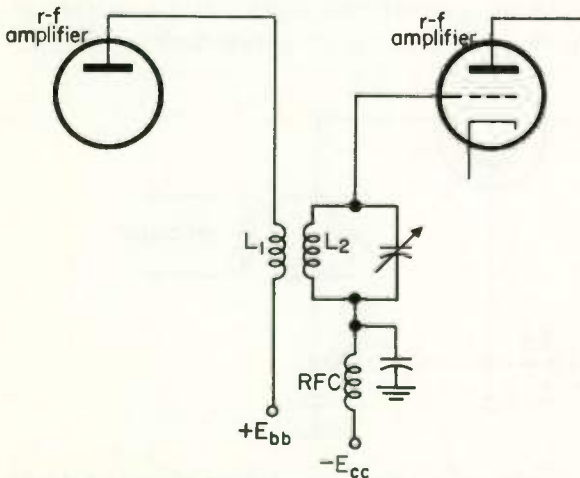
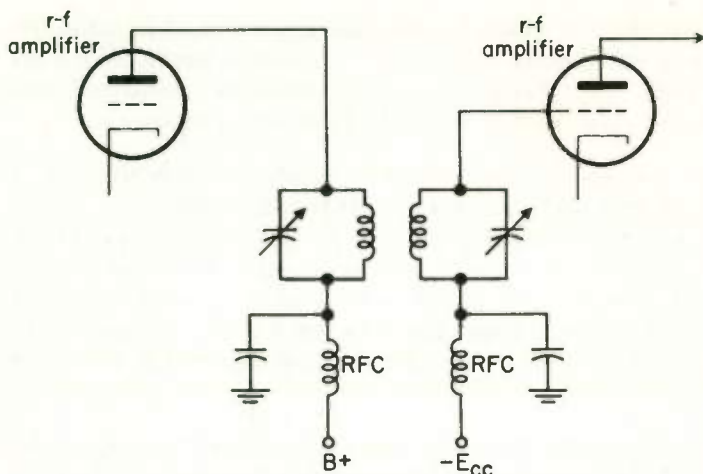

Fig. 15 Transformer coupling.
Fig. 17 Coupling between double-tuned stages.
14 TRANSFORMER AND CAPACITIVE COUPLING . . . Transformer coupling between r-f stages may be either single tuned as in Fig. 15, or doubled tuned as in Fig. 17. Double tuning gives better versatility in obtaining the desired frequency response, as will be explained in Topic 15. The primary and secondary of the transformer (L_1 and L_2 in Fig. 15) are generally wound on a coil form with an air core, the two windings being separated the proper distance to give the desired amount of interaction between primary and secondary windings. Iron cored
15 COUPLING BETWEEN DOUBLE-TUNED STAGES . . . A double-tuned r-f voltage amplifier is shown in Fig. 17. The degree of coupling between primary and secondary tank circuits determines the amplitude of the signal voltage to the grid of the second stage, and also determines the sharpness of tuning.
Obviously if the degree of coupling is low enough, only a small voltage is induced into the secondary (curve *a* of Fig. 18), so that the overall voltage gain of the circuit of Fig. 17 is poor. You might suppose that the highest voltage is induced across the secondary when the coefficient of coupling is as high as practical, but this is not the case. Fig. 18 shows that the secondary voltage at resonance reaches its highest value when $k = 0.01$ (curve *c*). Any further increase in the coefficient of coupling causes the secondary frequency response to become double humped (curve *d*), the voltage at resonance being reduced.
Fig. 18 How the secondary signal voltage in the circuit of Fig. 17 varies with the degree of coupling between the two tank circuits. (Curves assume that primary and secondary tank circuits are tuned to the same frequency, f_0 .)
1. In the circuit of Fig. 17, you can get sharper tuning by moving the tank circuit inductors so that they are (a) (*closer together*) (*further apart*). You can get high voltage gain and a often desired flat top on the response curve by adjusting the coupling to its (b) _____ value.